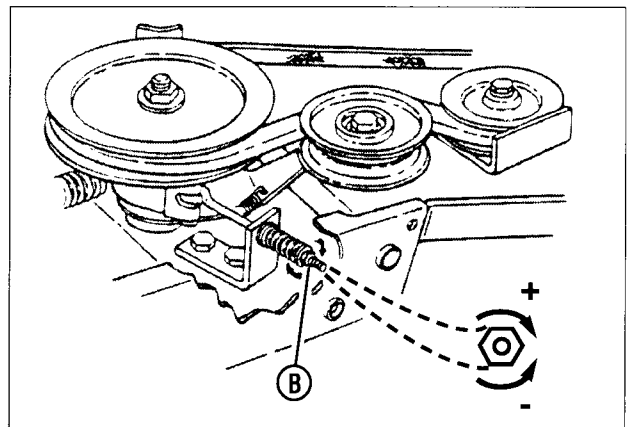

Figure 33: Adjusting blade brake tension
3. If the dimension is greater than 3-1/4", rotate the brake adjustment nut (A, Figure 33) clockwise to increase brake tension. If the dimension is less than 3", rotate the nut counter-clockwise to decrease brake tension.